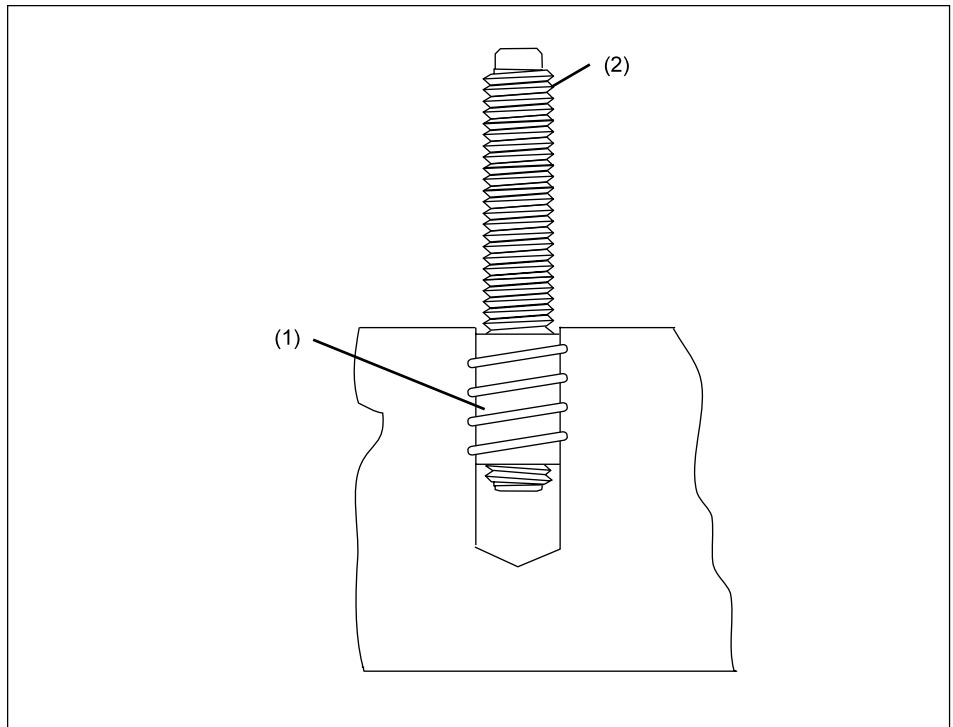

Figure 5. Install Stafast Fastener
2. Drill 5/8" (16 mm) holes 1-5/16" deep at the attaching holes marked at the floor. The hole must be deeper than the length of the fastener. Refer to *Figure 5*.
3. Align the fastener with the drilled hole and using a 10 mm hex drive wrench screw, the fastener into the wood floor until its top surface is slightly below the top surface of the floor. Refer to *Figure 5*.
4. Thread stud into fastener. Refer to *Figure 5*.